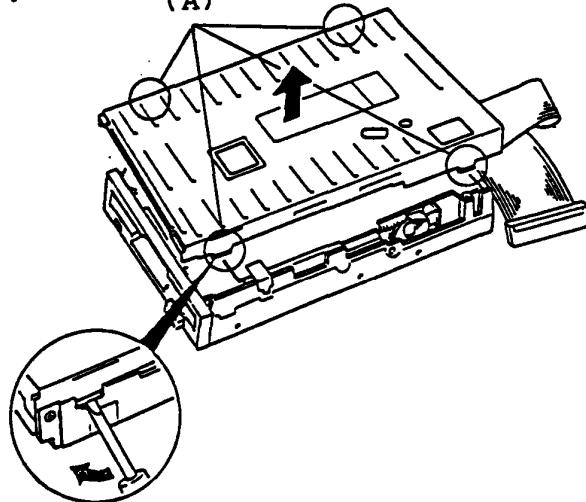

Figure 5-12 Spreading the Nailes
3. Spread the four nailes (A) with the blade scrwdriver to remove the FDD cover as shown in the figure 5-12.
4. Remove the two screws (B) on the FDD device (C) to remove the FDD bezel (D). (A)